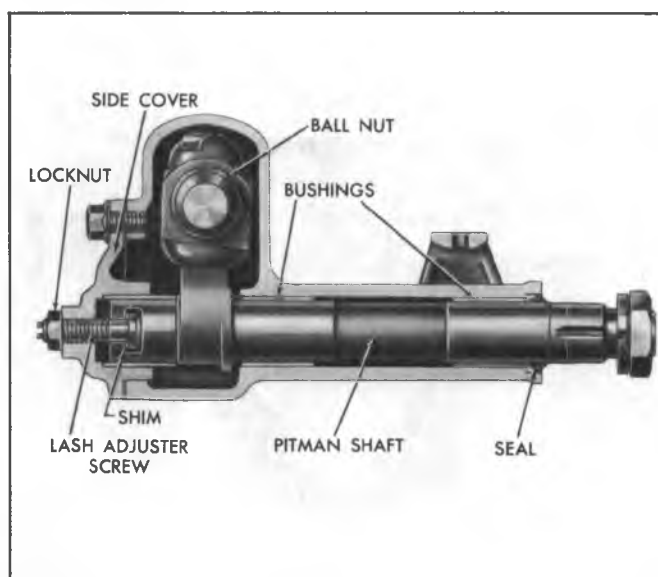

Fig. 4—Steering Gear (Corvette and G10-30 Series Trucks)
2. Press the new bushing(s) into position using Tool J-1614. Position the Corvette and G10-30 Series Truck bushings as shown in Figure 4.